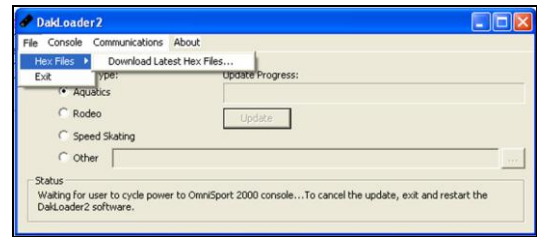

Figure 45: Hex Files menu bar
3. Open the **File** menu, then **Hex Files** and select **Download Latest Hex Files** option (*Figure 45*).